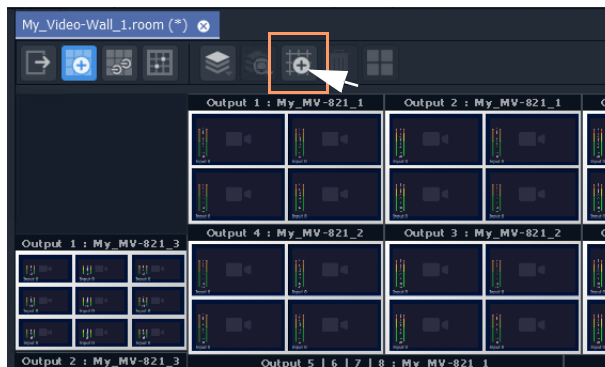

Fig. 8-37: Freehand Positioning Icon
- 1 Click on the **Freehand Positioning** icon (see Figure 8-37).